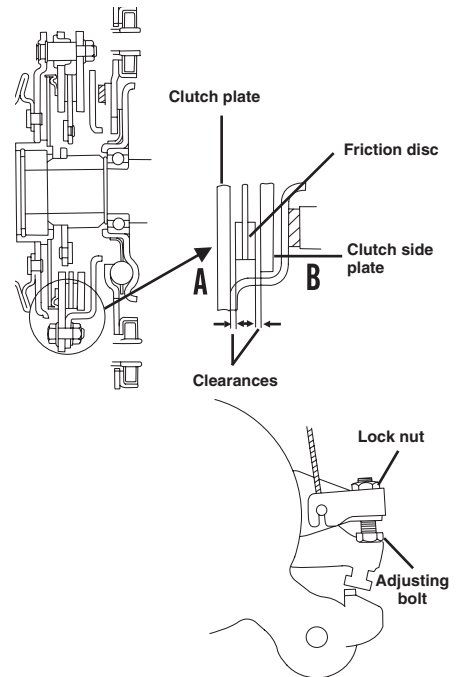

Fig. HN1-25—Use a feeler gauge to measure the PTO clutch plate clearances "A" and "B". Refer to text.
To adjust the PTO clutch, open the hood and move the PTO clutch lever to the OFF position. Using a feeler gauge, measure the clearance (A—Fig. HN1-25) between the clutch plate and friction disc and clearance (B) between the friction disc and the clutch side plate. Add the two measured clearances together. Loosen the locknut and turn the adjusting bolt as necessary so the total (A plus B) clearance is 0.6 mm (0.02 in.).
After assembly, measure the clearance between the side plate (Fig. HN1-25) and friction disc, then measure the clearance between the friction disc and clutch plate. Add the clearances together. Total clearance should be 0.6 mm (0.024 in.). Rotate the adjusting screw to obtain the specified clearance.